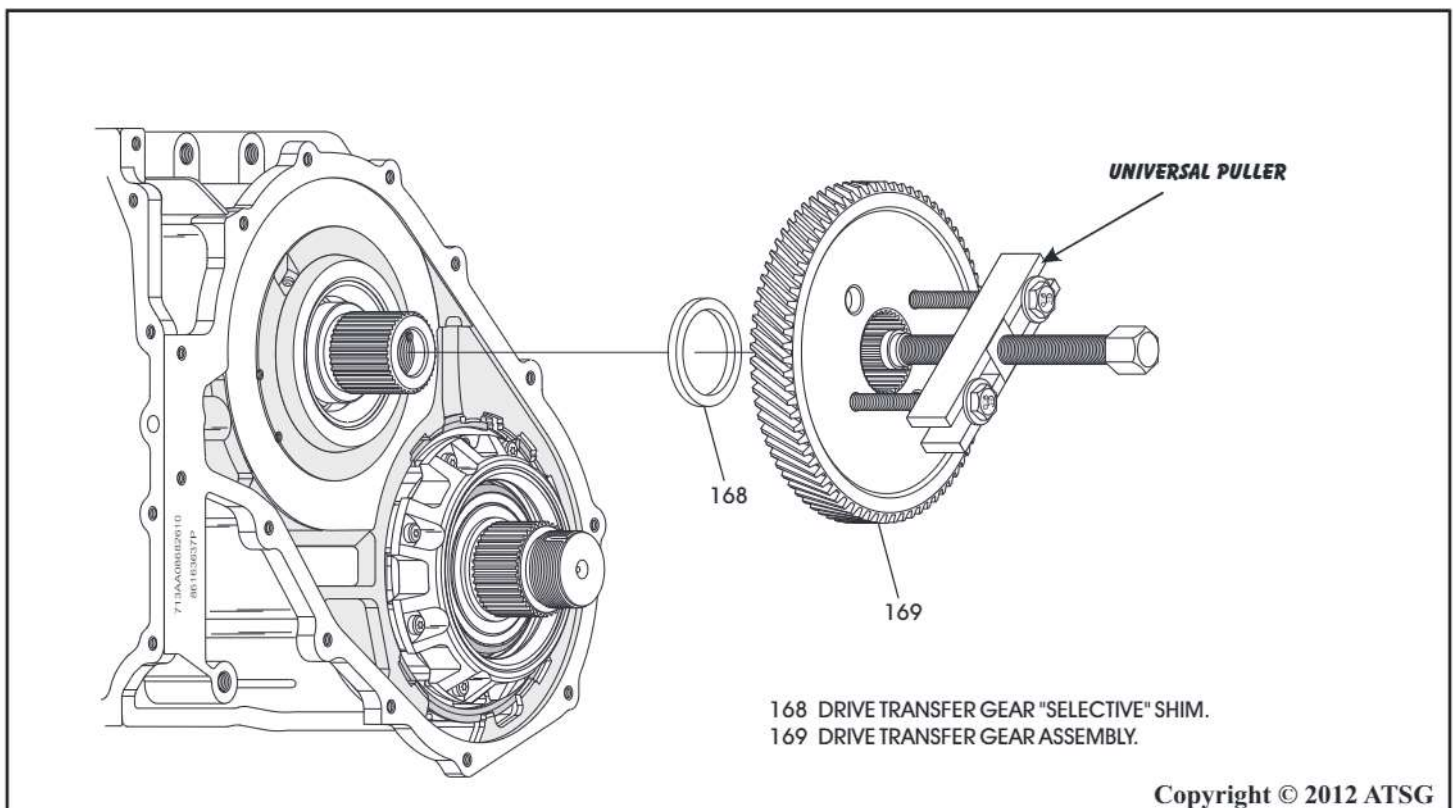

Figure 78
69. Install universal gear puller onto transfer drive gear, as shown in Figure 78, and remove the transfer drive gear.
- Note:** This step must be done with the transaxle centerline in a horizontal position, as shown in Figure 78 to prevent any damage to the rear planetary carrier.
70. Remove the transfer drive gear selective shim from the rear planetary carrier (See Figure 78).